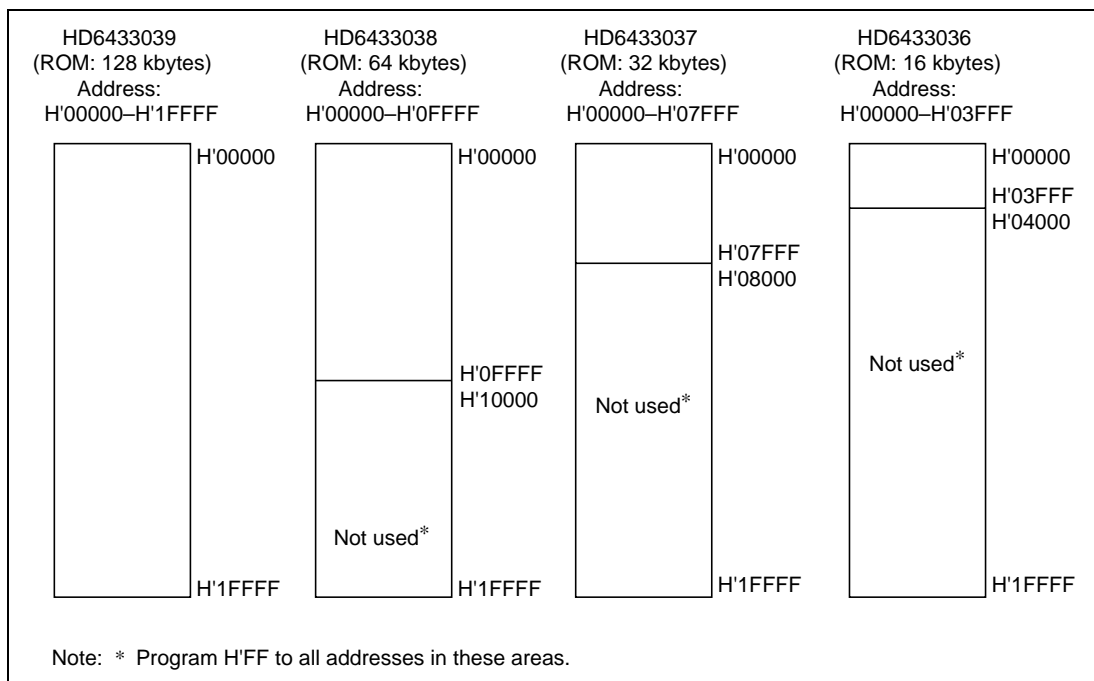

Figure 15.29 Mask ROM Addresses and Data
- Fill all the unused addresses with H'FF as shown in figure15.29 to make the ROM data size 128 kbytes for all H8/3039 Group chips, which incorporate different sizes of ROM. This applies to ordering through an EPROM and through electrical data transfer.